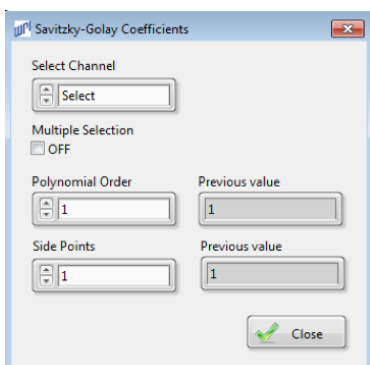

Fig. 67—The Savitzky-Golay Coefficient window lets you establish the parameters of your filter.
1. To apply a Savitzky-Golay filter, click on the **Filter** menu (of the *Analysis* window) and select **Savitzky-Golay**. The *Savitzky-Golay Coefficients* window appears (Fig. 67).